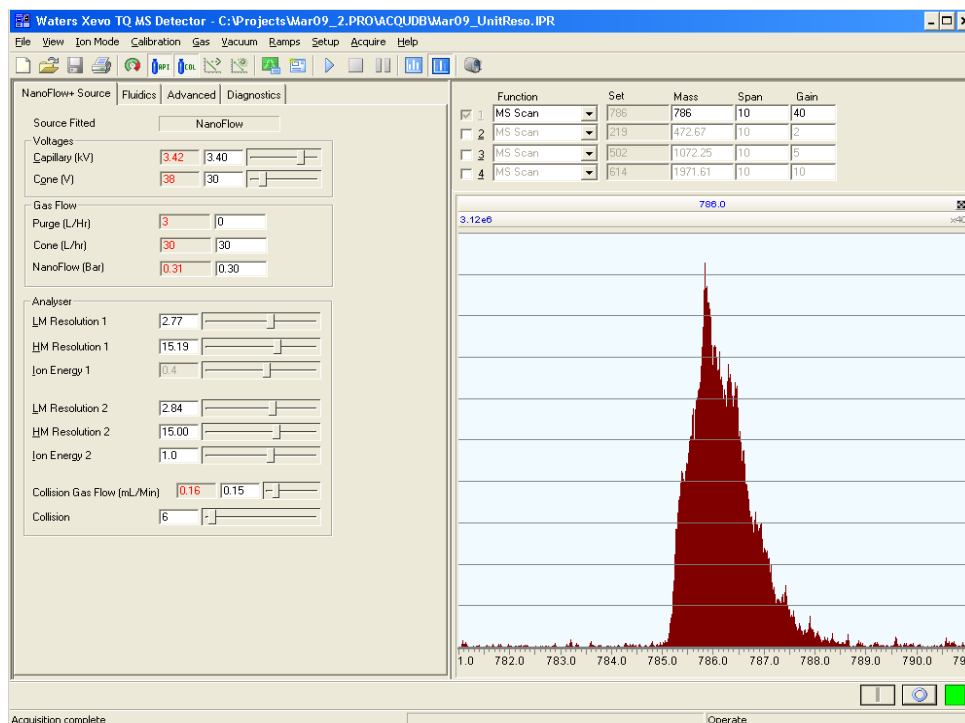

Figure 92 - Example Tune page (Xevo TQ MS)
22. Adjust the following parameters for an optimal signal (Figure 92):